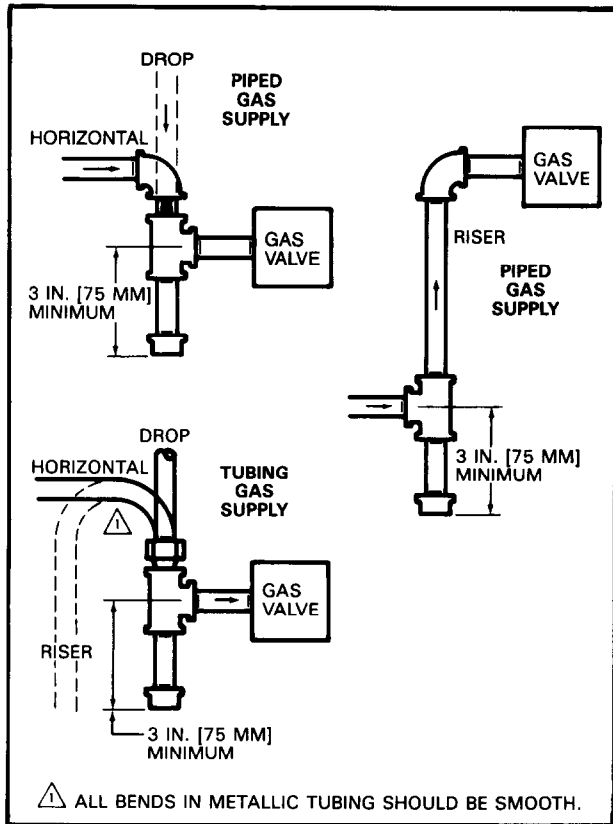

Fig. 3 — SEDIMENT TRAP (DRIP LEG) INSTALLATION.
4. Install drip leg in gas supply pipe. (Fig. 3)